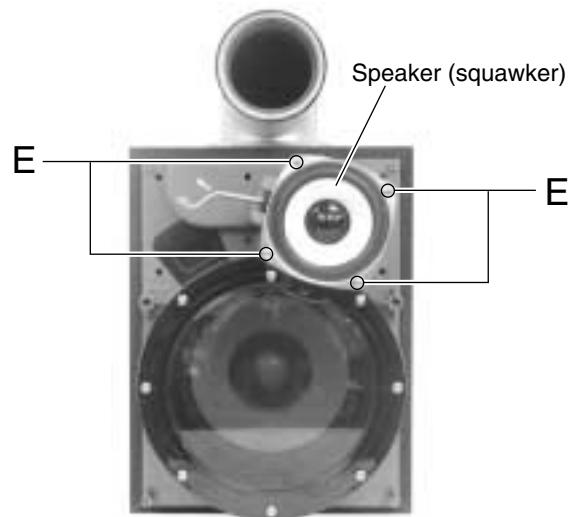

Fig.5
■Removing the speaker (squawker) (See Fig.5)